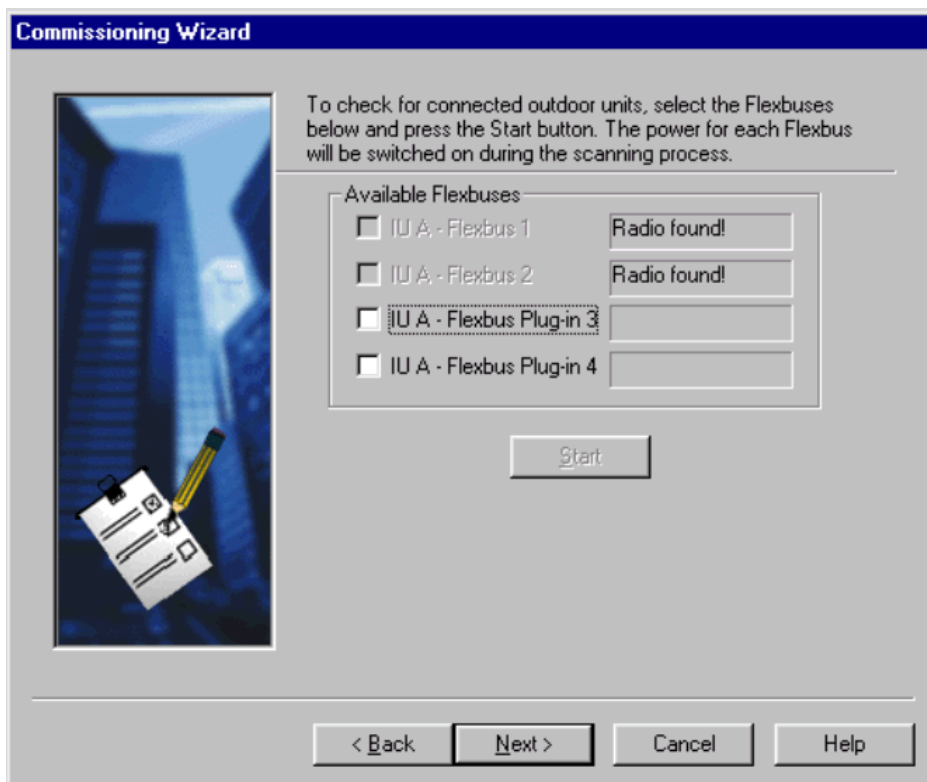

Figure 9. Flexbus scanning page
1. Check for any connected outdoor units by selecting the appropriate Flexbus interfaces from the list and clicking **Start**. This turns on the Flexbus power. Nokia Hopper Manager notifies you when any connected outdoor units are found (see Figure 9).